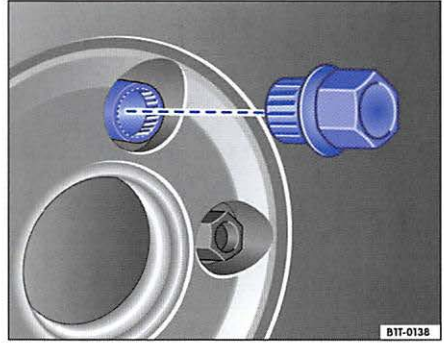

Fig. 24 Changing a wheel: anti-theft wheel bolt and adapter
- Take the adapter for anti-theft wheel bolts out of the vehicle tool kit ⇒ fig. 24.